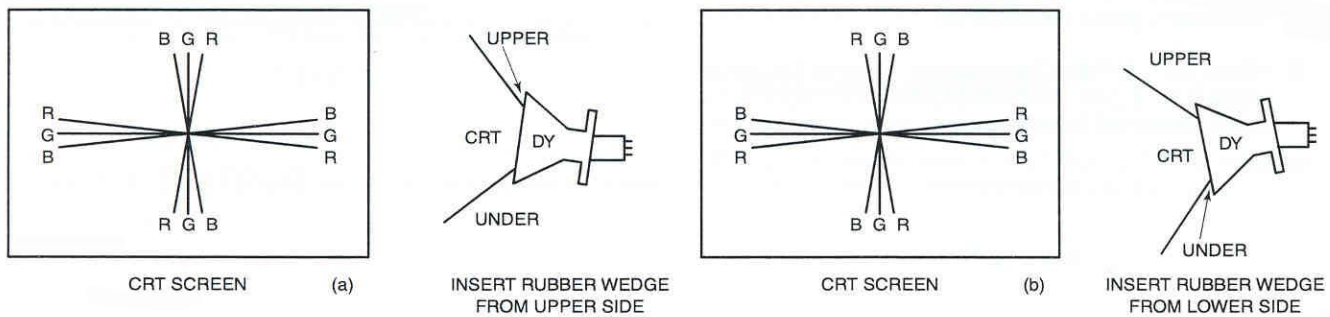

Figure 4
2. Insert wedge temporarily and fix the Deflection Yoke so as to obtain the best circumference convergence. (See Fig. 4 and 5)
- 1) Tilting the angle of the yoke up and down adjusts the crossover of both vertical and horizontal red and blue lines. See Fig. 4 (a) and (b).